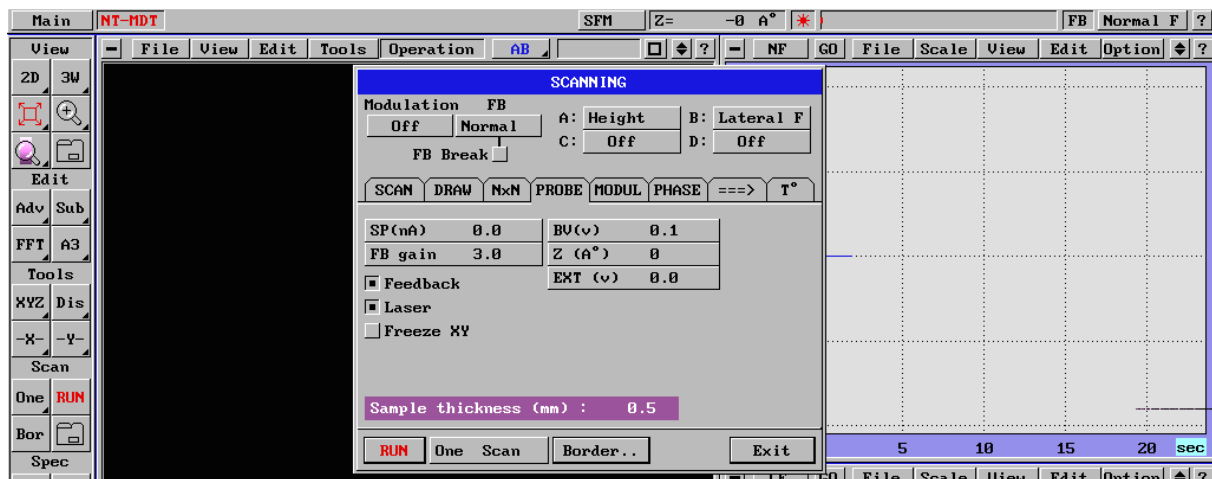

Fig. 174
- SP - 0 (Fig. 174)
FB Gain - 1-5 (Fig. 174) in case generation takes place decrease FB Gain.